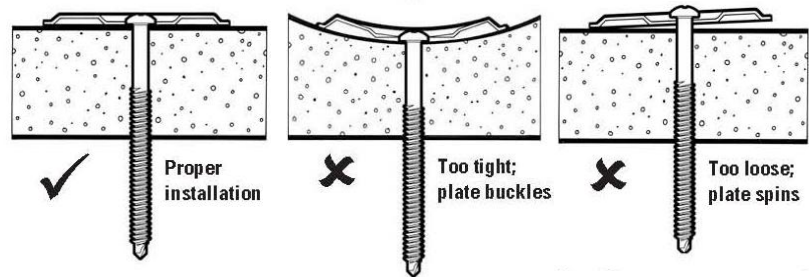

Figure 3. Proper Installation of Plate
1. Special care should be taken when fastening plates, so as not to overdrive or under-drive the fasteners into the structural deck (as illustrated in Figure 3). Overdriving the fasteners will result in a deformation or "cupping" of the plate and will result in an uneven or inadequate bond to the membrane, when welded. Under-driving the fastener will result in a loose plate with insufficient clamping force and a protruding fastener head that could cause damage to the membrane during welding and through normal roof traffic.